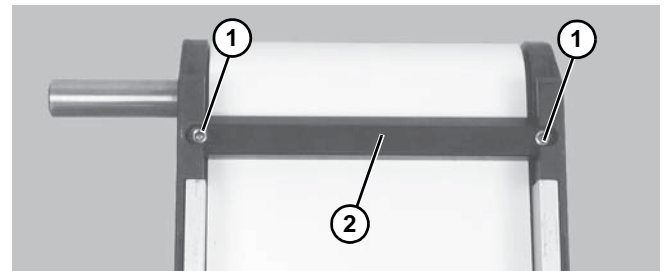

Figure 45
13. If equipped, re-install bottom wipers (**Figure 45, item 1**): Install wiper (**Figure 45, item 2**) then install screws.